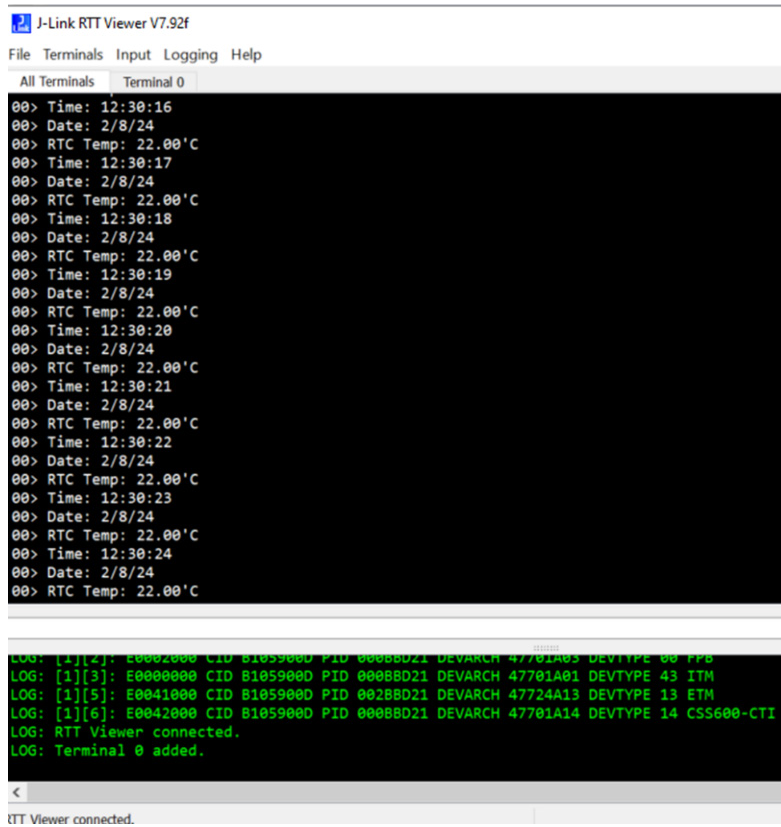

Figure 6. J-Link Terminal Window – Serial Data Output
3. After debug is complete, the lux data can be viewed from the Tera Term software as shown in the Figure 6.